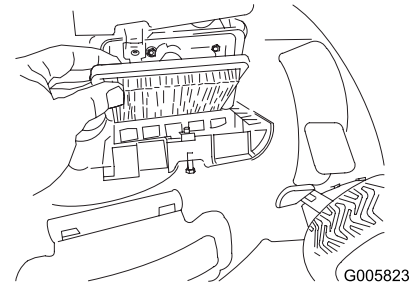

Figure 22
2. Replace the air filter (Figure 22).